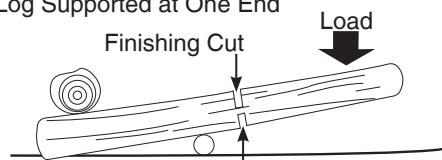

Fig. 25 Firs Cut - 1/3 Diameter
1. When the log is supported on one end (Fig. 25): First, cut from the